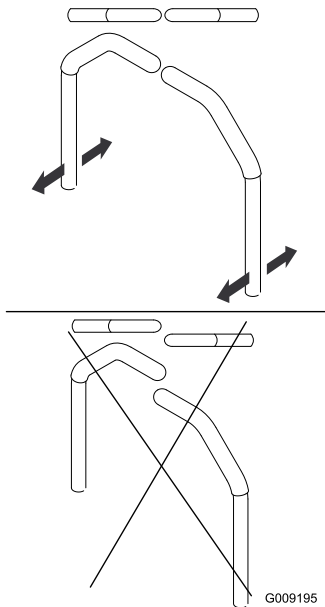

Figure 66
4. Align the levers front to rear position by bring the levers together to the neutral position and slide them until they are aligned, then tighten the bolts (Figure 66).